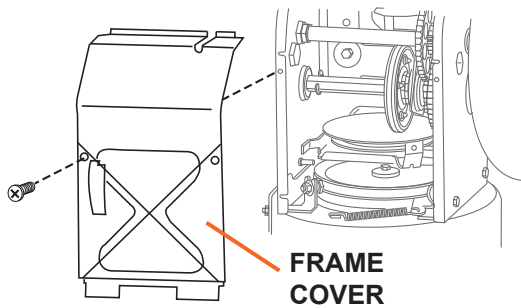

Figure 14
1. Remove the lower frame cover by removing the two screws which secure it (see Figure 14).
1. Remove the four carriage bolts and hex flange nuts which secure them to the snow thrower (see Figure 14).